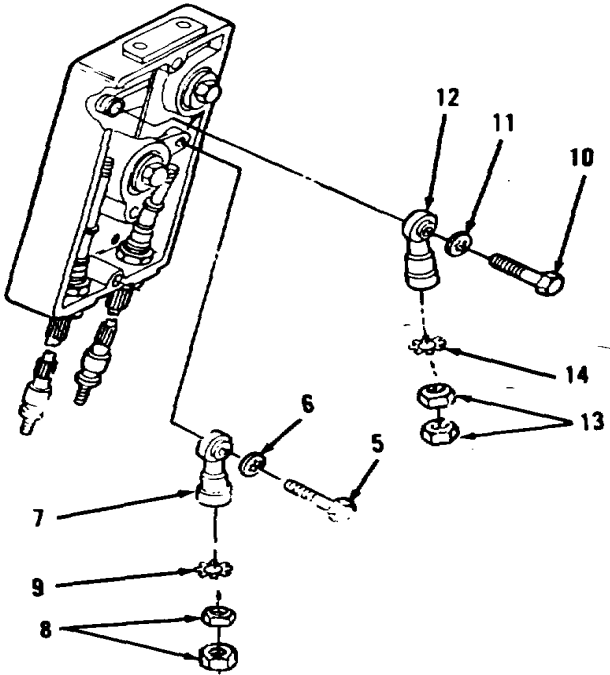
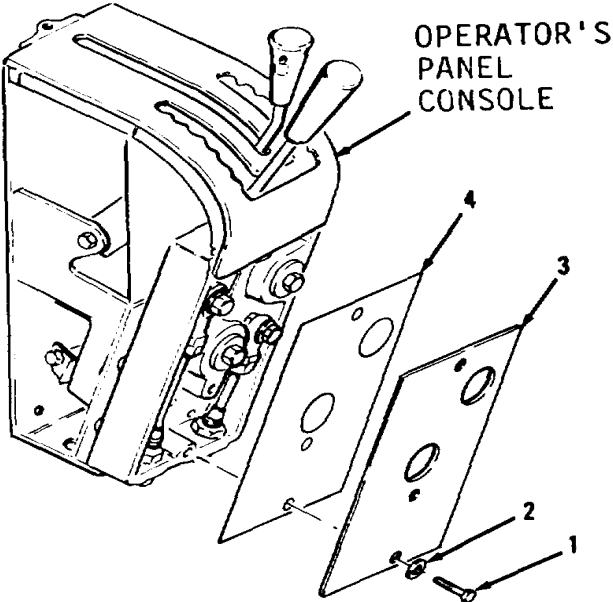

Figure 5-18.
Figure 5-17.
- 23. Install star washer (14) and two nuts (13) and rod end (12, Figure 5-18).
- 24. Adjust cable (56). Refer to TM 5-3805-261-20.
- 25. Install washer (11) and bolt (10) on rod end (12).
- 26. Install star washer (9), two nuts (8) and rod end (7).
- 27. Adjust cable (55). Refer to TM 5-3805-261-20.
- 28. Install washer (6) and bolt (5).
- 29. Install new gasket (4), cover (3), three washers (2) and bolts (1, Figure 5-17).